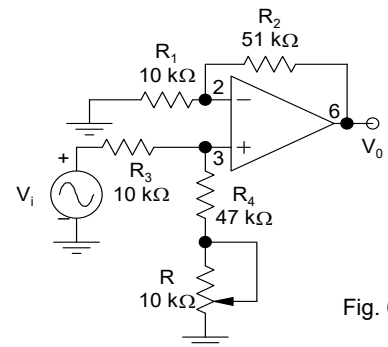

Fig. 6
3. Difference Amplifier (DA)
The aim of this part of the experiment is to study the performance of a DA by measuring its **common-mode** and **differential-mode** gains. In an ideal DA, the differential-mode gain A_d is infinite and the common-mode gain A_c is zero, thus giving an infinite **common-mode rejection ratio** ($CMRR \equiv |A_d/A_c|$). However, in a practical op-amp circuit, since A_d is finite and A_c is not exactly zero (but quite small), the CMRR might be of the order of 10^4 . The circuit of Fig. 6 will work as a DA when $R_2/R_1 = R'_4/R_3$ (where $R'_4 = R_4 + \text{part of the } 10 \text{ k}\Omega \text{ potentiometer (R) that is not shunted}$), giving a voltage gain of R_2/R_1 .
- (i) Wire the circuit of Fig. 6, but instead of grounding one end of R_1 , apply V_i to both R_1 and R_3 . Adjust the FG output to produce $V_i = 10 \sin(\omega t)$ ($f = 1 \text{ kHz}$).
- (i) Remove the input V_i from one end of R_1 and connect that end to ground, i.e., the connection of the circuit now should look exactly as given in Fig. 6. Adjust the FG output to give $V_i = 0.5 \sin(\omega t)$ ($f = 1 \text{ kHz}$). Observe the output voltage V_o on the CRO.